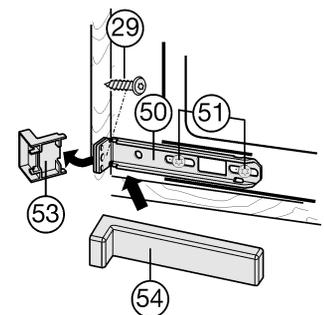

Fig. 17
- ▶ Loosen the screws *Fig. 17 (51)* a little.
- ▶ Tightly screw the bottom mounting bracket *Fig. 17 (50)* to the unit wall using Spax screw *Fig. 17 (29)*  $\varnothing 4 \times 19$ .
- ▶ Break off the projecting end of the cover *Fig. 17 (53)*. It is no longer required.
- ▶ Tighten the screws *Fig. 17 (51)*.
- ▶ Put the cover *Fig. 17 (54)* on the bottom mounting bracket *Fig. 17 (50)*.